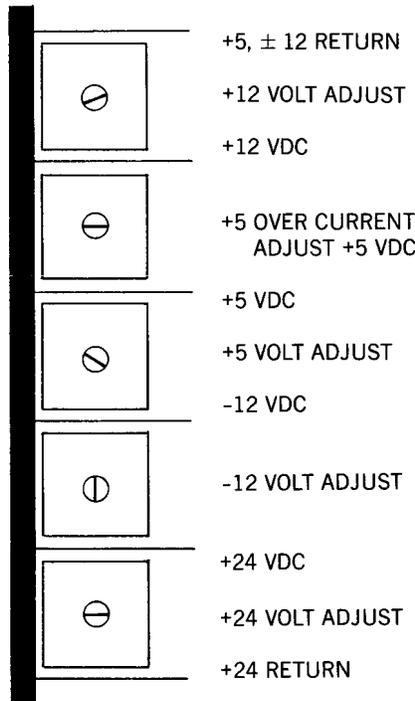

Fig. 1—Power Supply Voltage Adjustments
3.11 Using a voltmeter, check the voltages on the power supply. The voltage adjustments should be within $\pm 5\%$ of the normal voltages shown in Fig. 1.